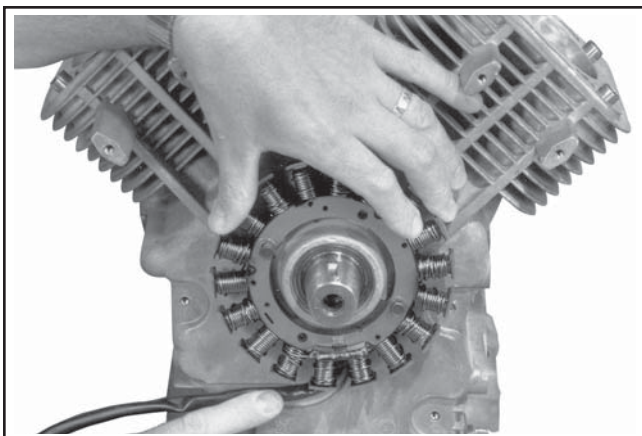

Figure 10-17. Route Stator Leads in Groove.
4. Route the stator leads in the crankcase channel, then install the backing plate. Secure with the four hex flange screws. See Figures 10-17 and 10-18. Torque the screws **10.7 N·m (95 in. lb.)** for new holes or **7.3 N·m (65 in. lb.)** for used holes.